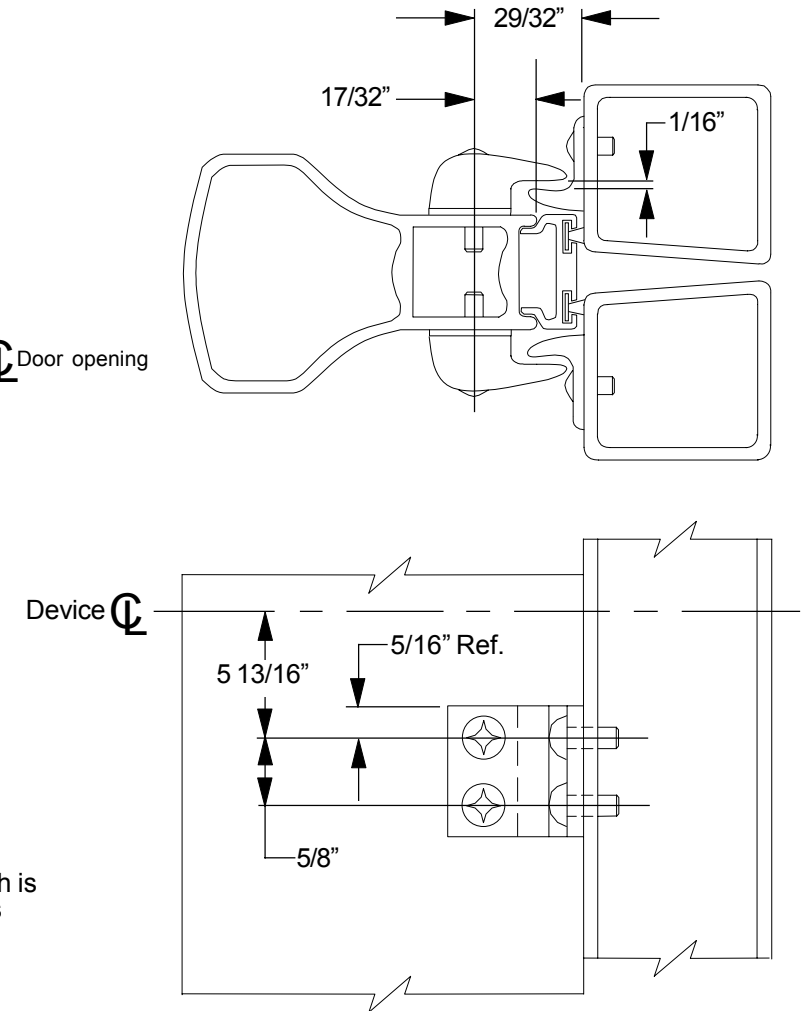

Figure 5
7. Apply stabilizer block to door as shown in Figure 5.